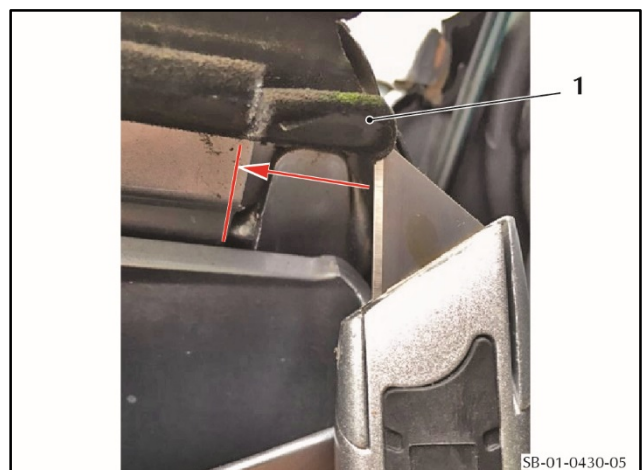

Figure 5
5. Use the sharp knife to make a horizontal cut to remove the worn part of the seal (1). Cut the seal (1) flush with the seal carrier (refer to Figure 5).